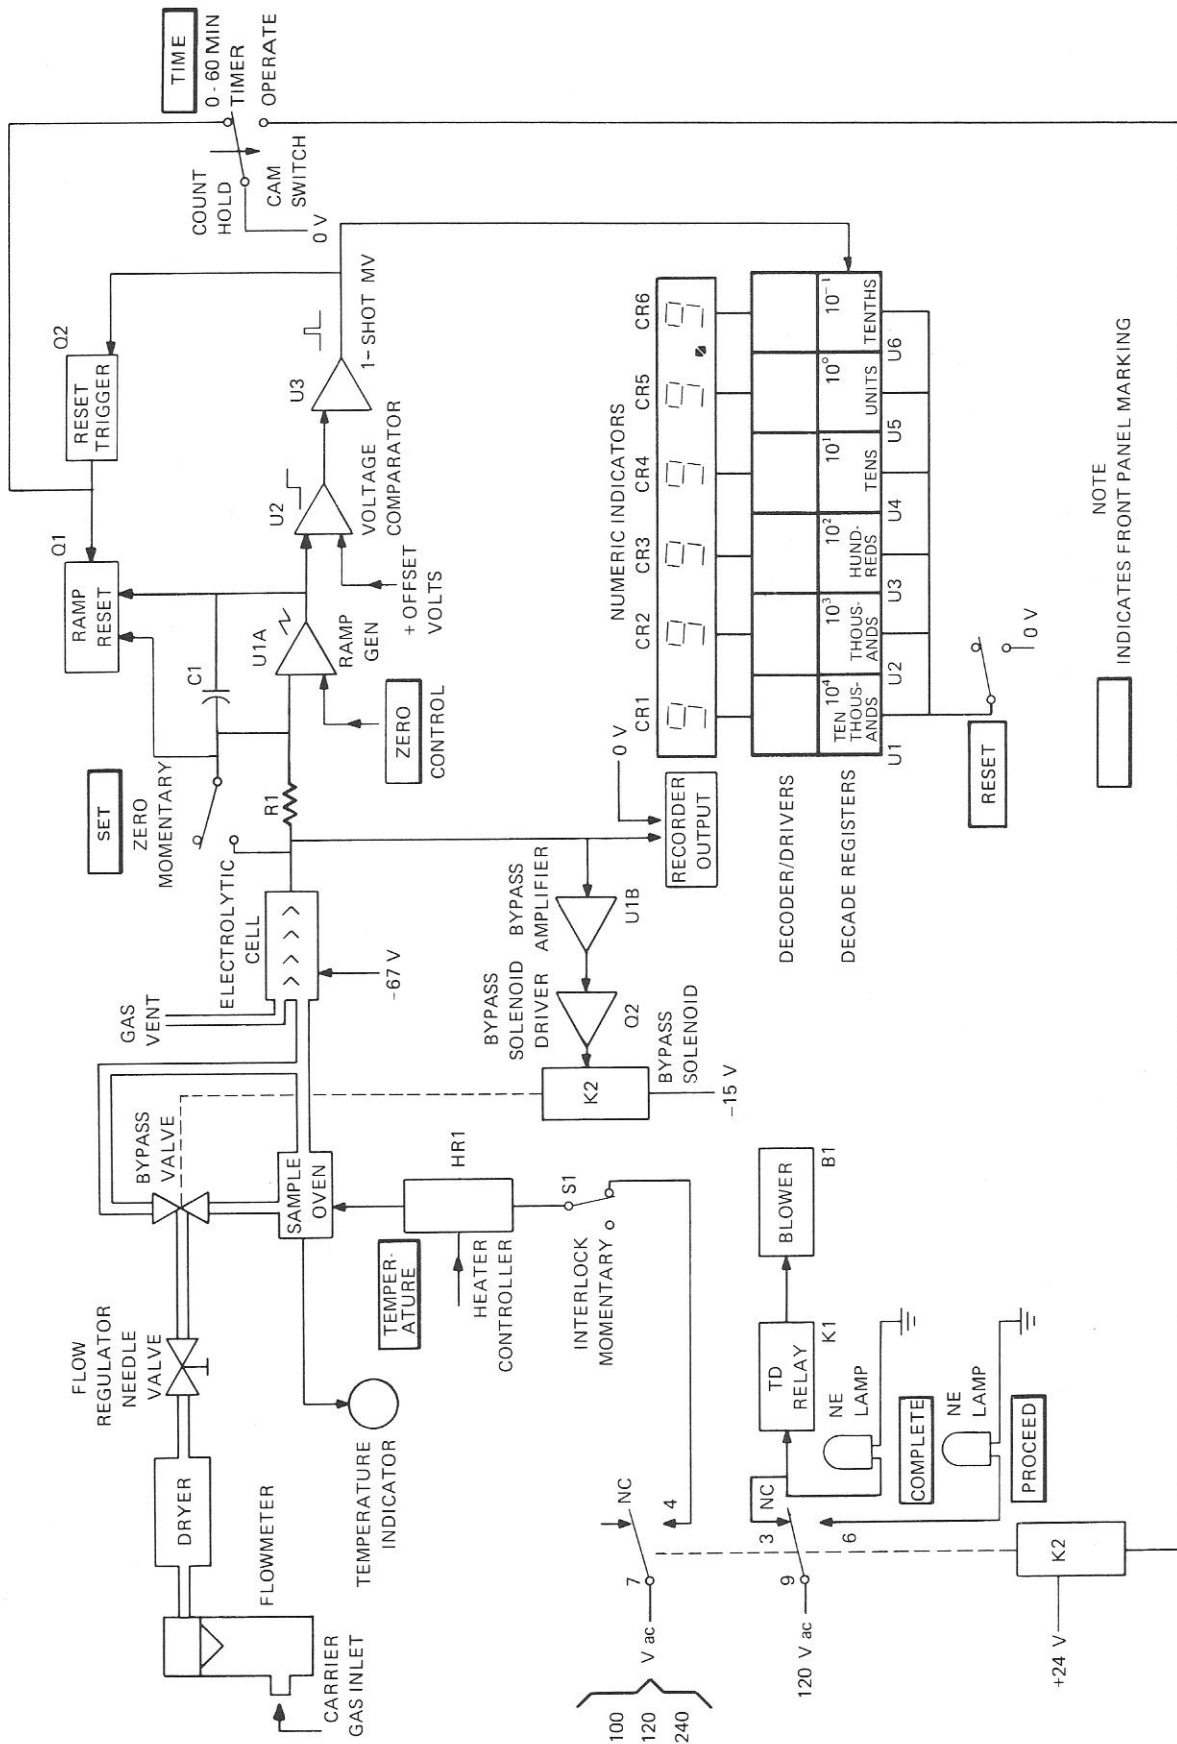

Figure 1-5. Functional Block Diagram, Moisture Analyzer.
b. Functional Description (figure 1-5).
To prevent the cell from saturating, a bypass valve (figure 1-5) energizes when the electrolyzing current approaches the cell's maximum moisture handling capacity. When the current approaches 30 mA ($\approx 2000 \mu\text{g/g}$), bypass amplifier U1B produces an output which energizes bypass-solenoid driver Q2 to close the oven inlet and open the bypass. With the oven inlet closed, the carrier gas cannot enter it and therefore absorbs no moisture. It flows through the cell and escapes through the vent without contributing to the moisture count. When the cell electrolyzing current decreases, the bypass amplifier turns off the solenoid driver, deenergizing